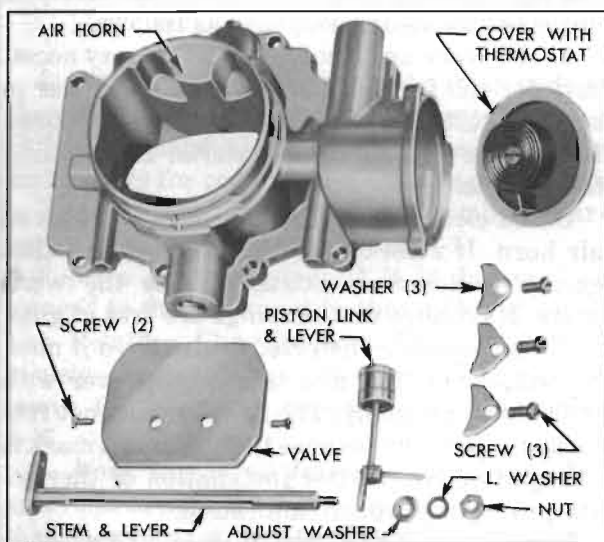

Figure 3-70—Stromberg Choke Control Parts
7. Remove thermostat cover. Use Wrench T-25047 to remove nut from choke stem, then remove lockwashers and serrated washer. See figure 3-70.
12. Install both idle tubes and the power bypass jet with a *new* gasket. See figure 3-70.